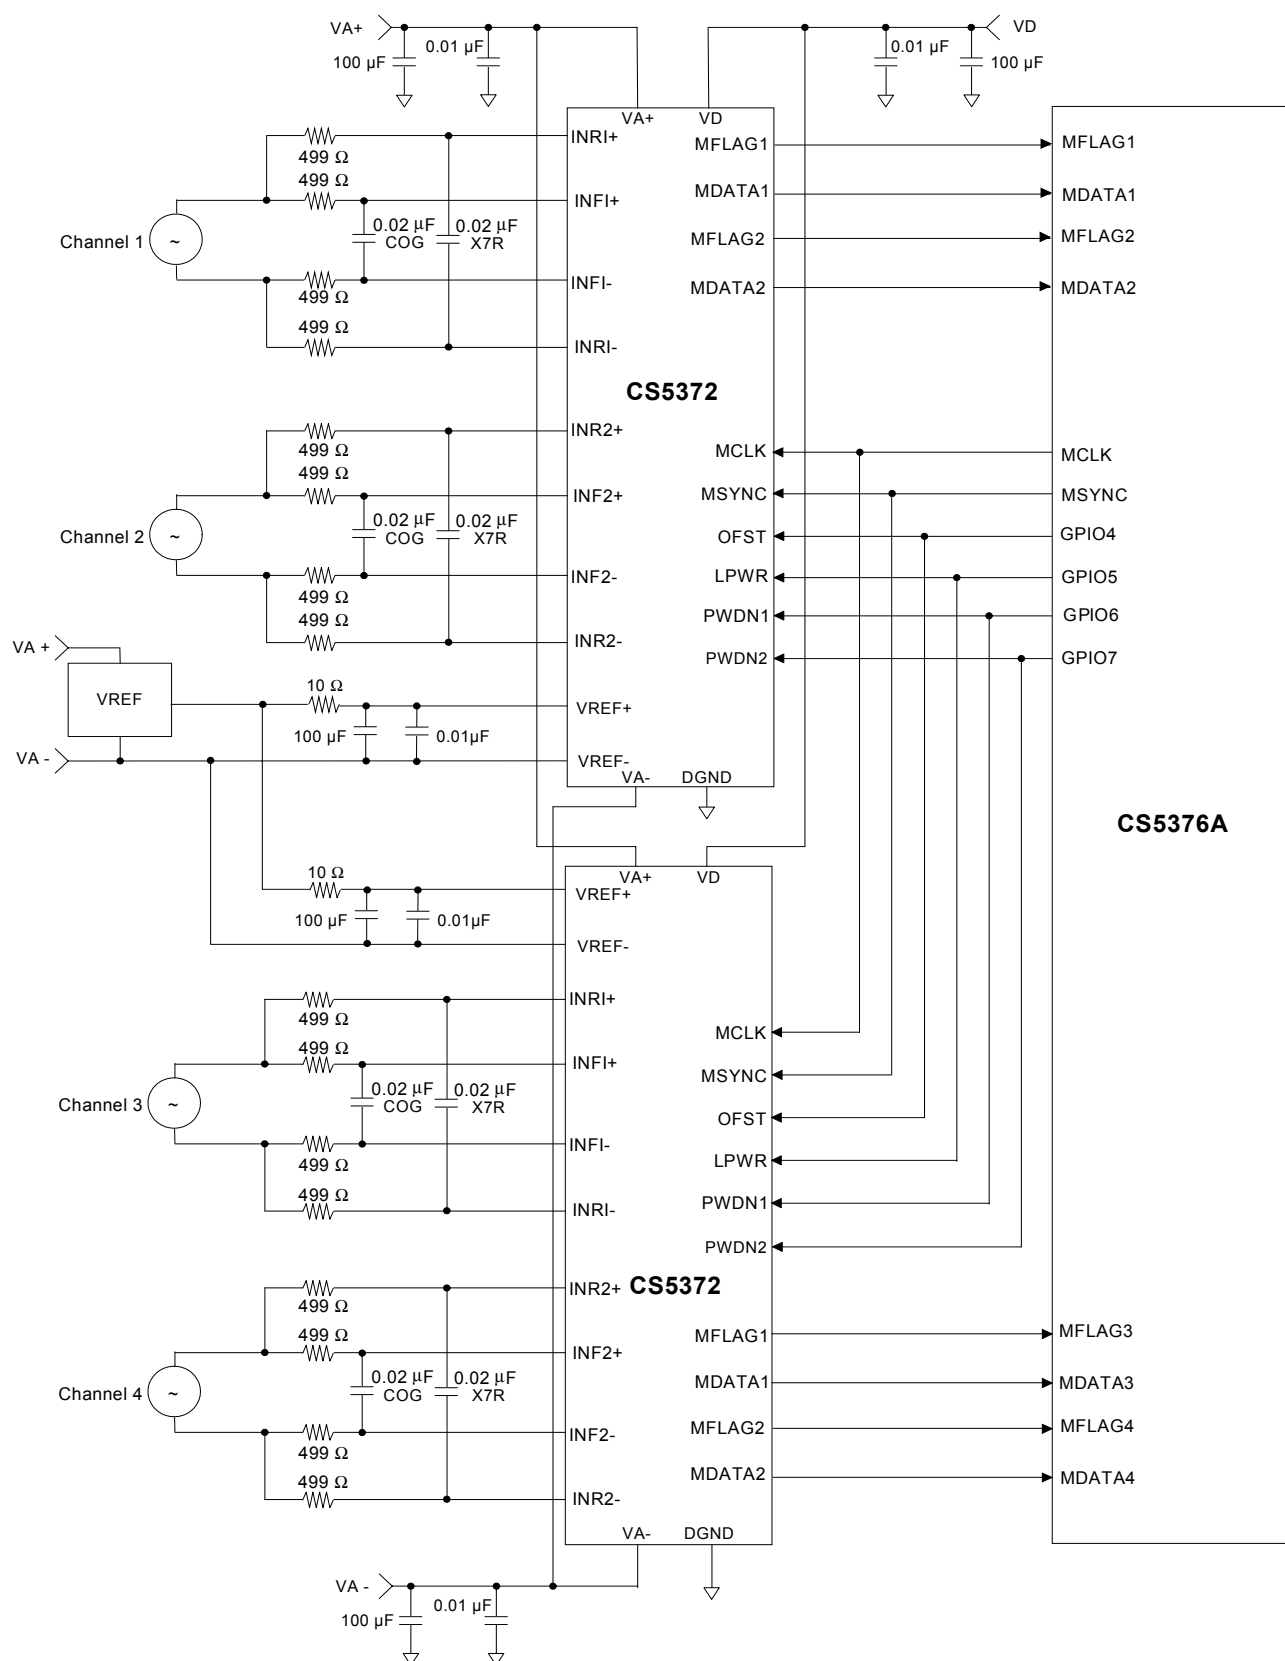

Figure 3. System Connection Diagram
8. The input voltage range is for the configuration depicted in Figure 3, the System Connection Diagram, and applies to signal frequencies from DC to the stop-band frequency selected in the digital filter.
The CS5371 and CS5372 are one- and two- channel fourth-order $\Delta\Sigma$ modulators, optimized for extremely high-resolution measurement of signals between DC and 1600 Hz. They are designed to be used with the CS5376A and CS5378 low-power digital filters. Figure 3 on page 8 shows a four-channel system connection diagram for two CS5372 and one CS5376A.
Figure 3 illustrates the CS5372/CS5376A system connections with input anti-alias filter components. Filter components on the rough and fine pins should be identical values for optimum performance, with the capacitor values a minimum of 0.02 μF . The rough input can use either X7R or C0G capacitors, while the fine input requires C0G type capacitors for optimal linearity. Using X7R capacitors on the fine inputs will degrade signal to distortion performance up to 8 dB.